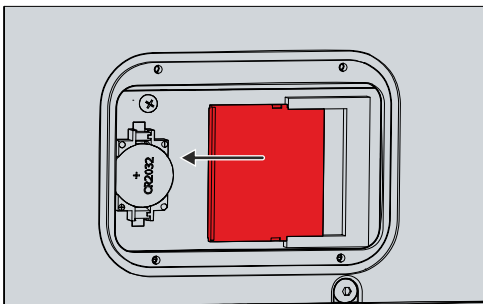

Fig. 14: CP77xx_Exchange CFast
1. Carefully pull the CFast out of the guides (see Fig. 14).